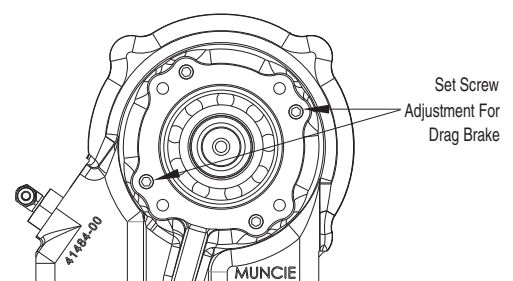

Figure 15 – Drag Brake Adjustment
22. Remove the hose (40) with a 7/16" wrench. *See Figure's 13 & 14.*
23. Remove the four socket capscrews (50) using a 5/16" Allen wrench. Proceed to remove the bearing cover (51). *See Figure 15*
24. Locate the adjustment screws (42) on the inside of the PTO housing (37). *See Figure 15*
25. Using a 3/16" Allen wrench, turn each of the set screws (42) 1/4 turn clock-wise to increase the drag brake.
26. Move away from under the vehicle and away from possible moving components and restart the engine. Look for the output shaft (10) to stop turning. If the shaft continues to turn, then shut off the engine and repeat steps 24-26.